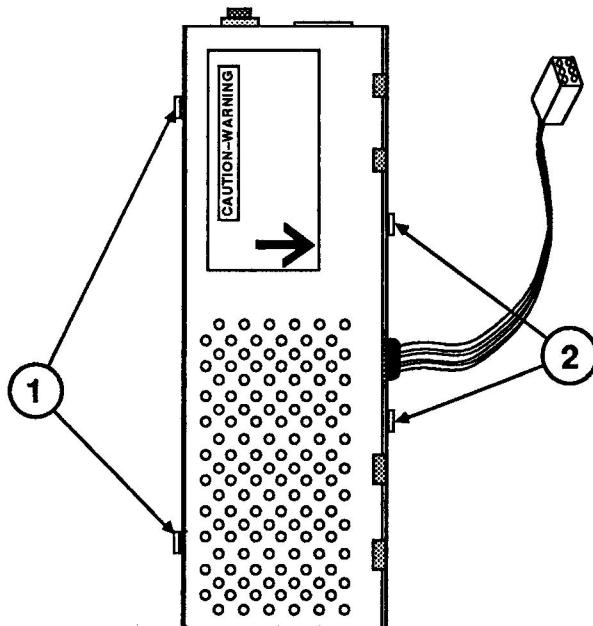

FIGURE 7
1. Using the #0 Phillips screwdriver, remove the two flat-head screws (Figure 7, #1) and the two round-head screws (Figure 7, #2) that secure the power supply cover to the power supply. Remove the cover from the power supply.